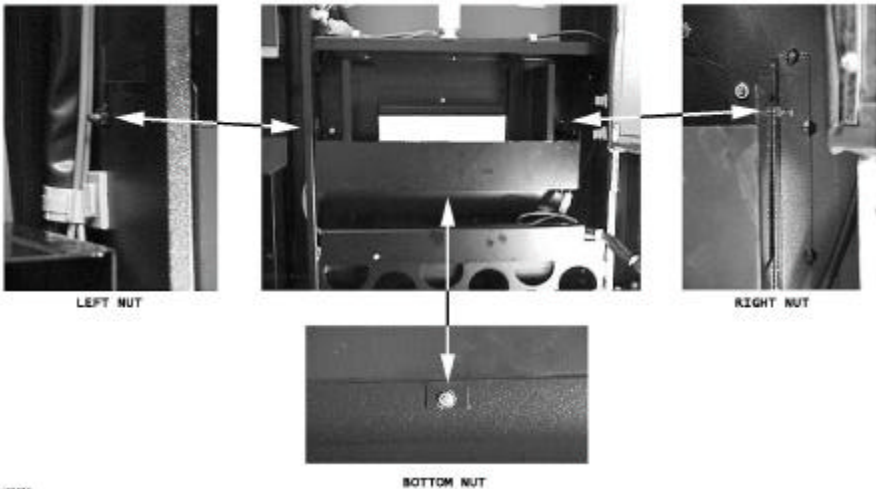

Figure 15. Remove Delivery Box mounting nuts.
2. Find the Delivery Box on the bottom right corner of the Front Door as viewed from behind the Front Door. Remove the Delivery Box from the Front Door by removing the bolt nuts. See **Figure 15**.